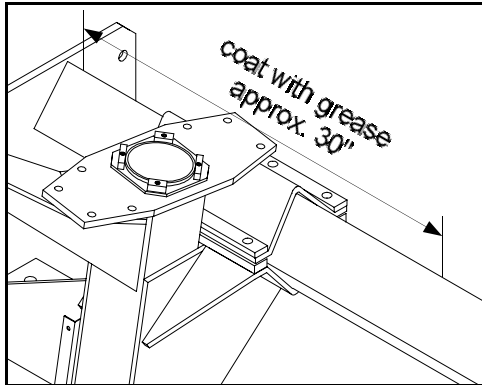

FIG 5.14
1. Make sure the nylon material on the tread adjustment brackets on both the front and rear legs have an adequately lubricated surface to slide on during adjustment (fig. 5.14).